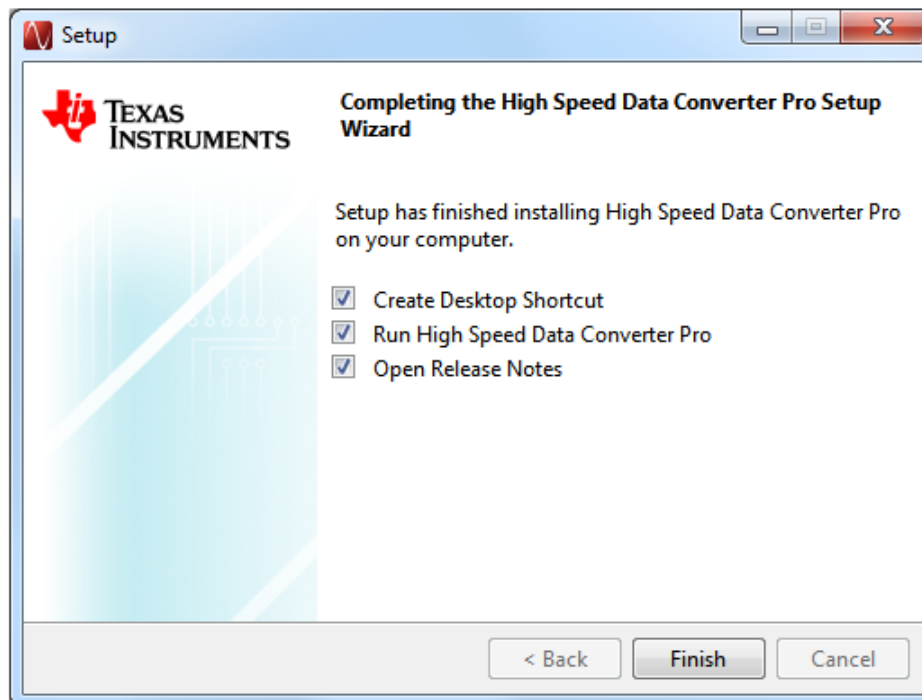

Figure 33. HSDCPro Install (Finish Installation)
- Finish HSDCPro installation by choosing the installation options and pressing *Finish*, as in Figure 33.